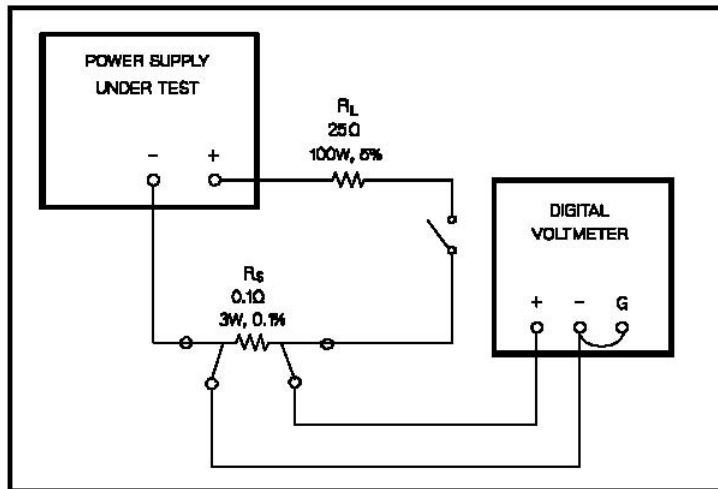

Figure 1-7 Output Current, Test Set Up
- 6 Connect the test setup shown Figure 1-7 to the V1 supply's + and - output terminals.
- 10 Open the load switch and repeat steps (6) through (9) for the V2 supply.
- 12 Connect the test setup shown in Figure 1-7 to the V1 supply's + and - output terminals. Substitute a short for R_L and leave the load switch open.
- 15 Open the load switch and repeat steps (11) through (14) for the V2 supply.
- 2 Connect the test setup shown in Figure 1-7 to the output of the supply to be adjusted. Substitute a short for R_L and leave load circuit switch open.